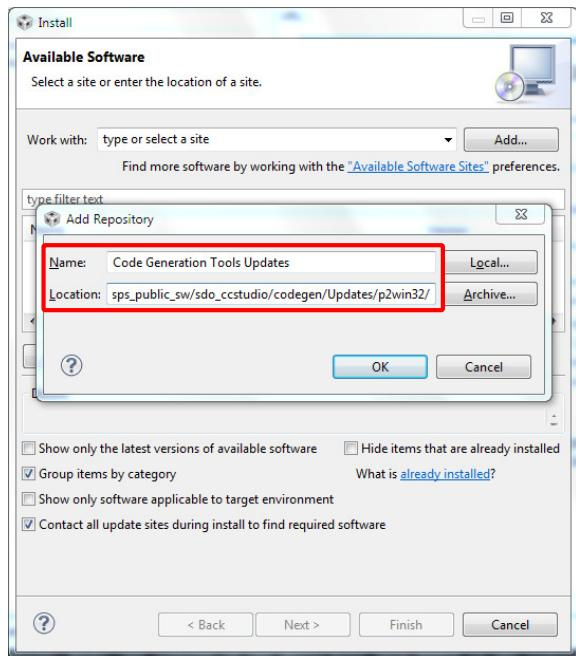

Figure 5.5: **Add Repository** dialog
- b) In the dialog (see Figure 5.5 on page 18):